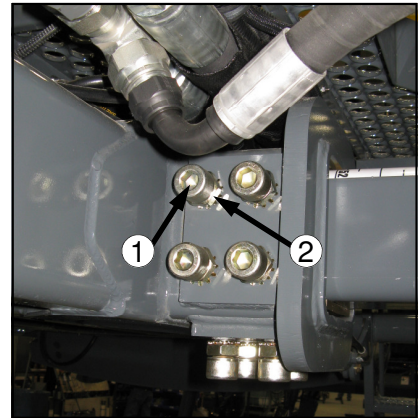

FIG 128-1
**HYDRAULIC TREAD ADJUST UNITS**– With the engine turned off, visually inspect the tread bearing bolts on both the bottom and side tread adjust bearing plates (fig. 128-1) every 50 hours. Torque check them every 100 hours.
1. Loosen the jam nut (fig. 128-1, item 2) on each tread adjust bearing bolt.